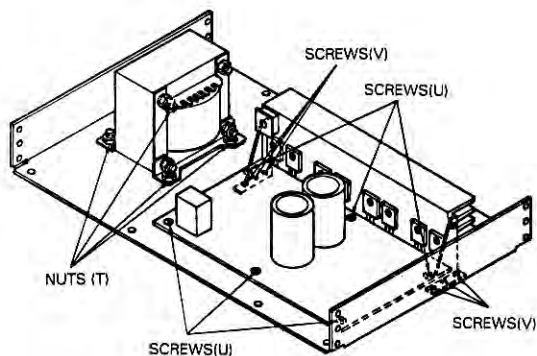

Fig. 6
- (a) Removal of Transistor. (Fig.6)
- (b) Removal of Main PCB. (Fig.6)
- (c) Removal of Heat Sink. (Fig.6)